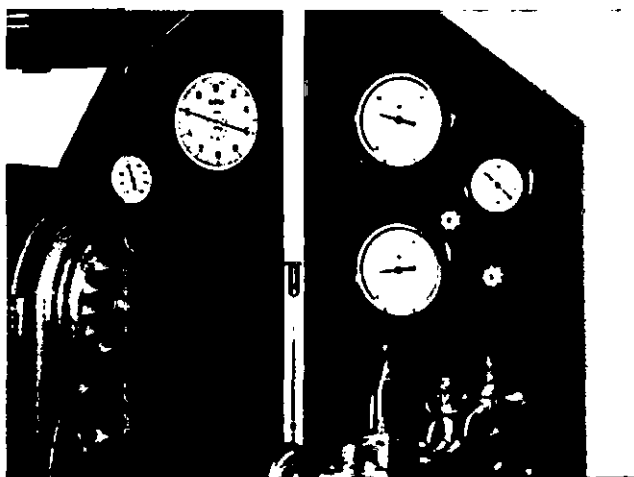

Fig. 10-60, (F5116). Check point pressure readings.
1. Lower the speed to "Check Point (1)", line 17 of the calibration table.
3. Check the pressure at the calibration pressure gauge. The check point pressure must be within the range of line 17 of the table, Fig. 10-60.